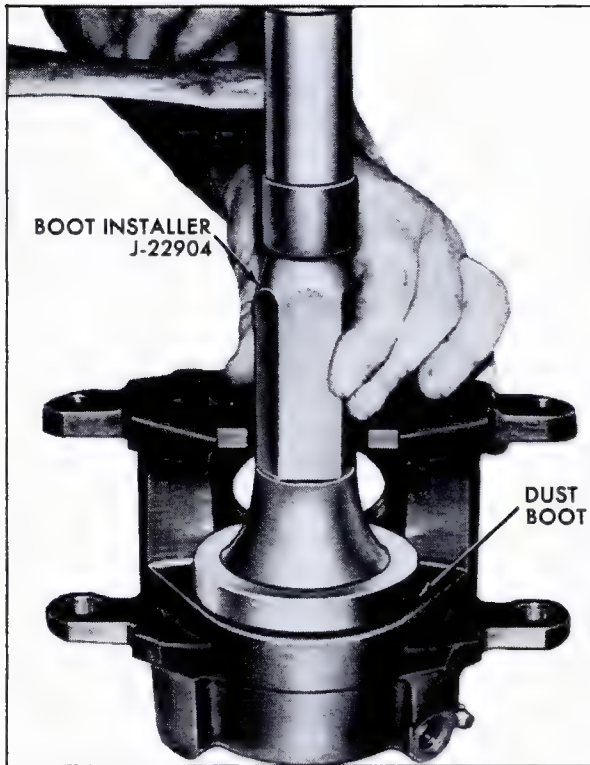

Fig. 5-15 Installing Dust Boot in Caliper
6. With dust boot evenly positioned in caliper counterbore, position Boot Installer, J-22904, on boot and tap with a plastic hammer to seat boot, Fig. 5-15.